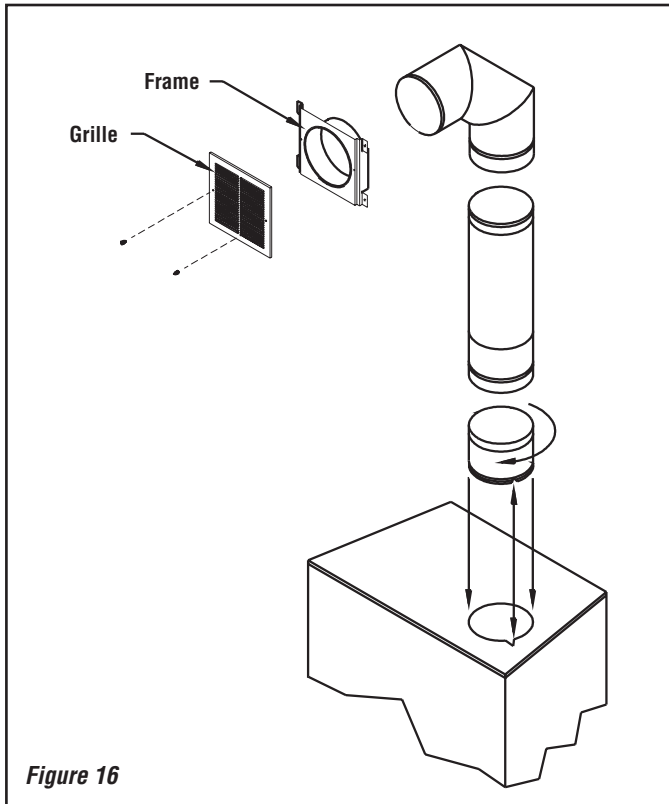

Figure 16
The gravity kit is designed for double hot air outlets and includes: (See *Figure 16*)
1. Remove the plates closing up the 8" dia. holes on top of the fireplace. Then, cut the insulation in order to obtain two 8" dia. openings. Fix the adaptors on the fireplace openings by turning clockwise (Figure 16).